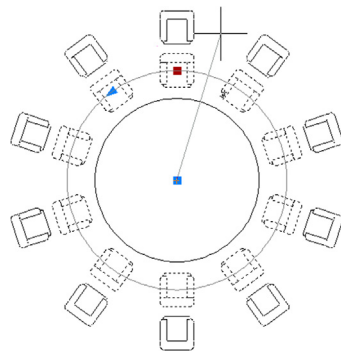

FIGURE 8.8
- **Stretch Radius.** This option simply expands the radius of the overall array. The effect is the same as if you just activate the grip and move the mouse. Stretch Radius in action is seen in Figure 8.8.